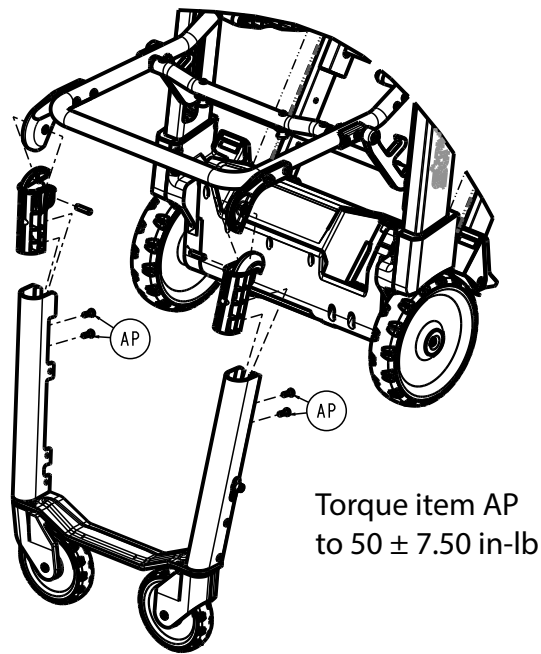

Figure 20 –
7. Using a T20 Torx driver, remove the four pan head thread forming screws (AP) that secure the leg assembly to the leg pivots (Figure 20). Save the screws.